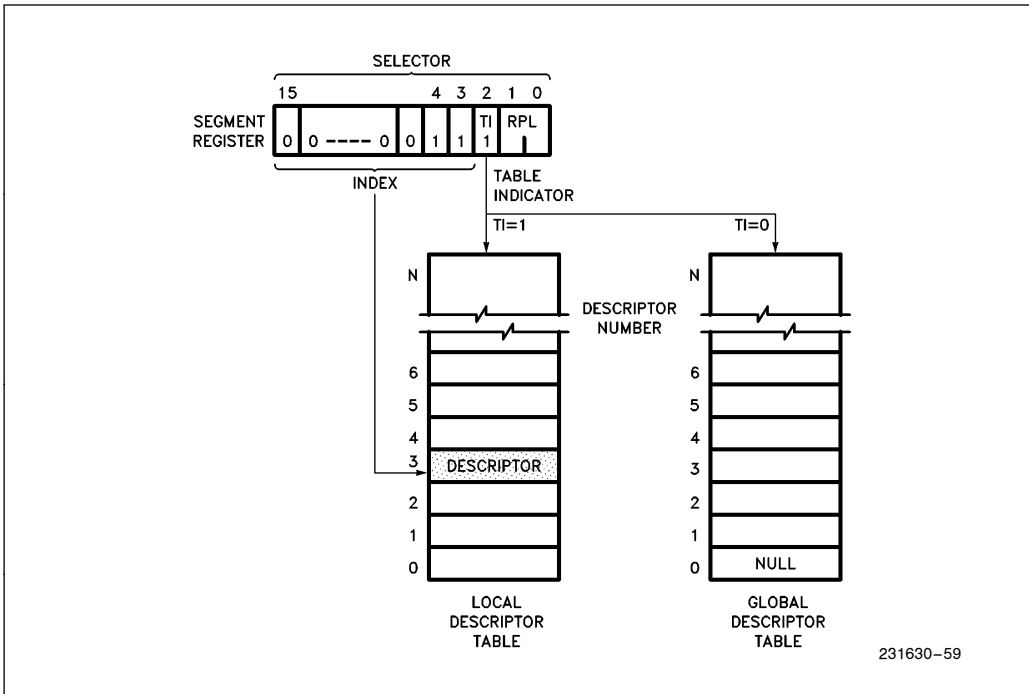

Figure 4-10. Example Descriptor Selection
A selector in Protected Mode has three fields: Local or Global Descriptor Table Indicator (TI), Descriptor Entry Index (Index), and Requestor (the selector's Privilege Level (RPL) as shown in Figure 4-10. The TI bits select one of two memory-based tables of descriptors (the Global Descriptor Table or the Local Descriptor Table). The Index selects one of 8K descriptors in the appropriate descriptor table. The RPL bits allow high speed testing of the selector's privilege attributes.